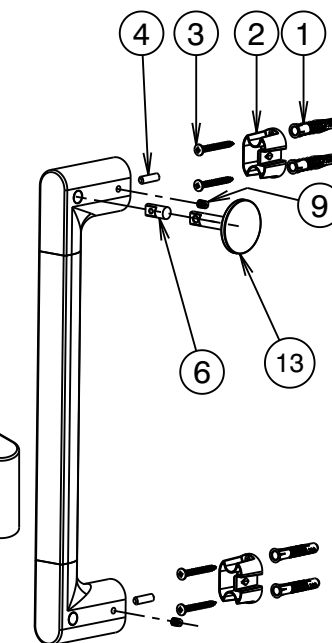

Fig. 3
- 1) Position support rail in desired location against wall or fixing surface. To ensure side surface of support rail is vertical, then using a pencil, mark mount blocks (2) position.
- 2) Remove grub screws (9) to get mount blocks (2), using mount block (2) as a template to drill screw holes.
- 2b) For fixing to brickwork, blockwork or concrete, drill Ø8mm hole 60mm deep. Remove templates. Insert wall plugs (1) into drilled holes. Ensure plugs are flush with wall.
- 3) Using screws (3) to attach the mount blocks (2) securely to the wall.
- 4) If robe hook (13) is required, loose screw (4) from back of post to remove insert (6), insert robe hook (13) into support rail from insert hole as shown in Fig. 3, then tighten screw (4) firmly from back of post.
- 7) Rail can now be installed onto mount blocks (2) and secured using the grub screws (9).